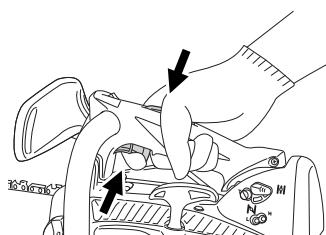

Fig. 14
8. As soon as engine start, pull throttle trigger full once and release immediately. (Fig. 14)